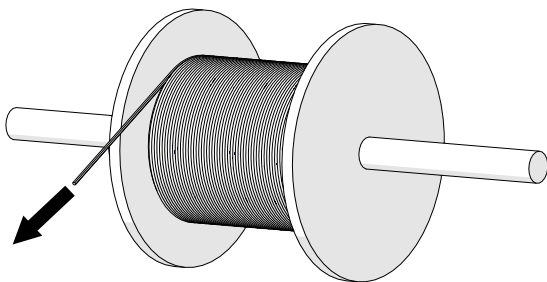

Fig. 15: Unwind heating wire end from the spool
- Wind the end of the heating wire from the spool (see Fig. 15) and at the feed point of the heating pull it through the cavity of the insulating profile straight to the next feeding point, before mounting the 0812 connectors and the 0812 infeeds (see chapter 2.3.2) (see procedure/organization of the insertion process).